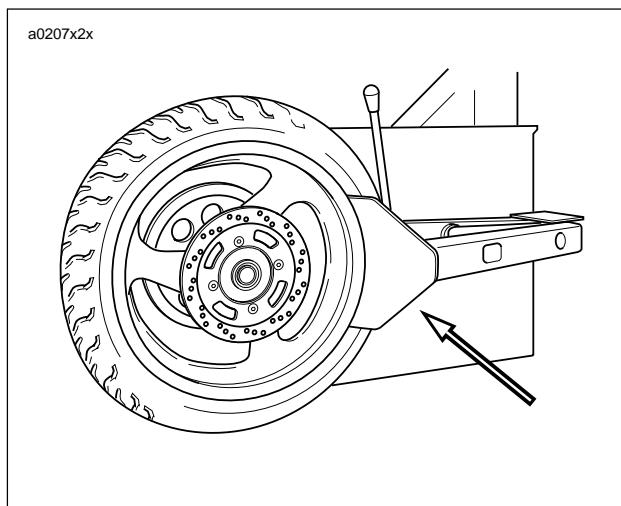

Figure 2-20. Loosening Beads from Rim Flange (Typical)
4. See Figure 2-20. Use a pneumatic bead breaker to loosen bead. Rotate wheel and apply bead breaker at several points along circumference of the rim until entire bead drops into rim well.